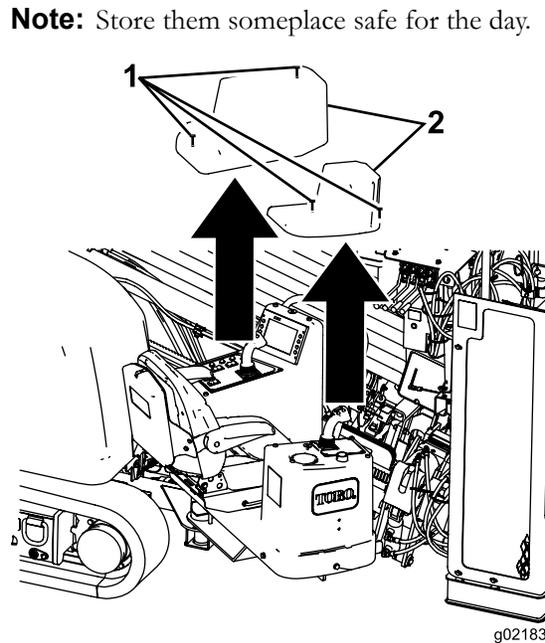

Figure 37
3. Loosen the 4 screws that secure the covers over the operator consoles and remove the covers (Figure 37).